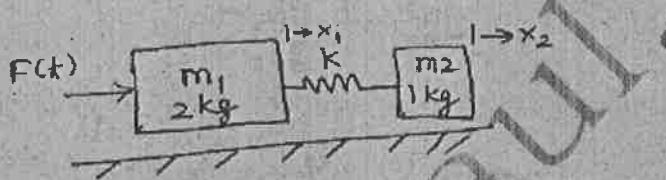

Fig. 2
11. (a) (i) Explain the features of closed loop feedback control system. (4)
(ii) Derive the transfer function of system shown in fig. 2. (12)